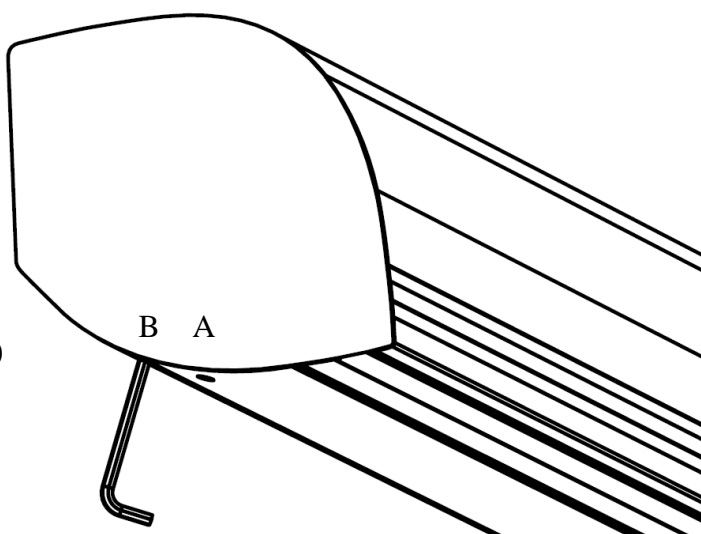

Fig.10
- Delivered screen has end positions requested by the client. If the surface of the screen hangs too high or too low, its position may be adjusted using key from the set (fig.10).